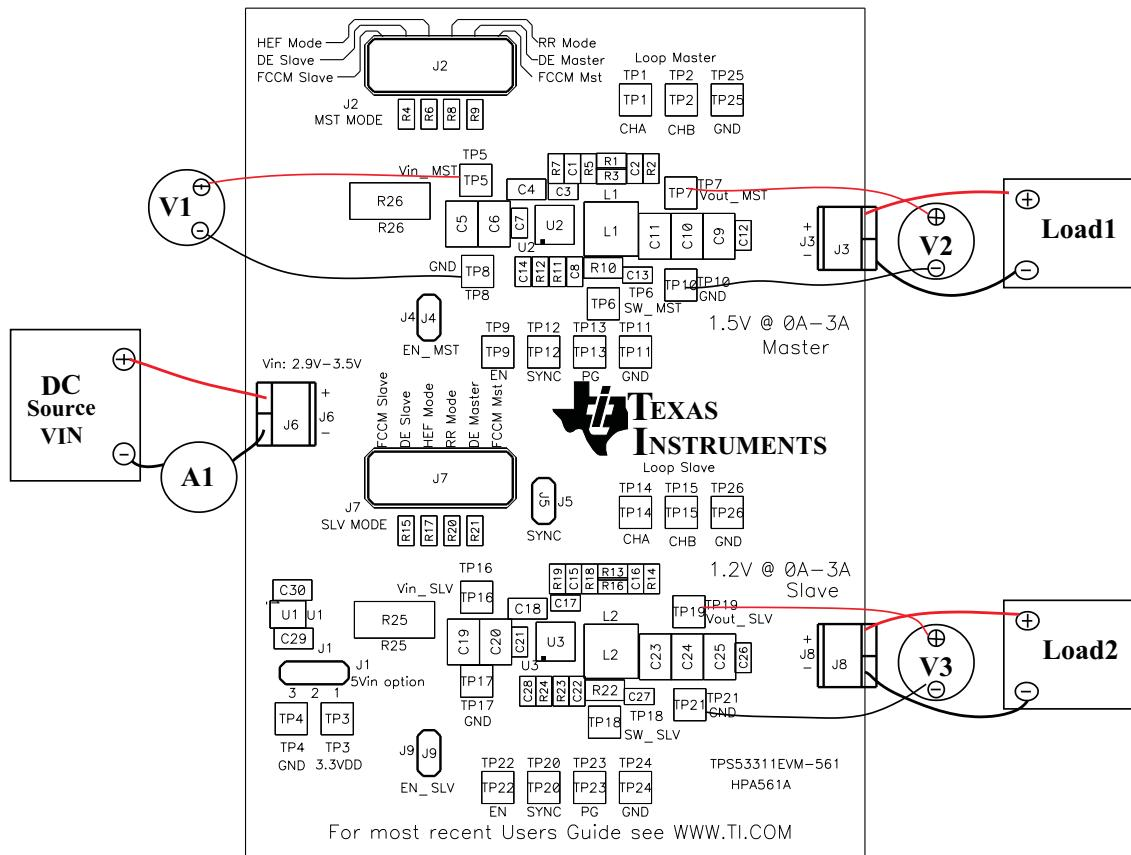

Figure 3. TPS53311EVM-561 Recommended Test Setup
Voltage Source VIN: The input voltage source VIN must be a 0-V to 6-V variable dc source capable of supplying 3 Adc. Connect Vin to J6 as shown in Figure 3.
Figure 3 is the recommended test setup to evaluate the TPS53311EVM-561. Working at an ESD workstation, ensure that any wrist straps, bootstraps, or mats are connected referencing the user to earth ground before handling the EVM.
1. Prior to connecting the dc input source VIN, it is advisable to limit the source current from VIN to 5 A maximum. Ensure that VIN is initially set to 0 V and connected as shown in Figure 3.
1. Set up EVM as described in Section 6.1 and Figure 3. Measure 1.5-V bode plot.